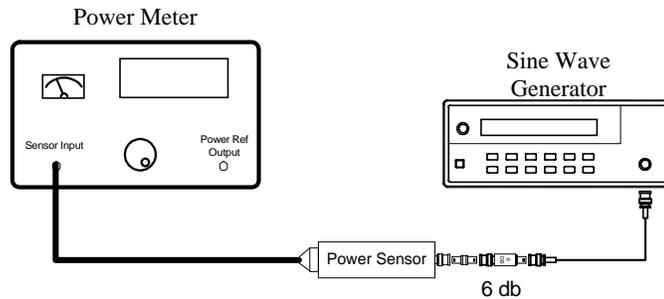

Figure 5-5 : Power Meter Equipment Setup
- Connect the test equipment as shown in Figure 5-5.